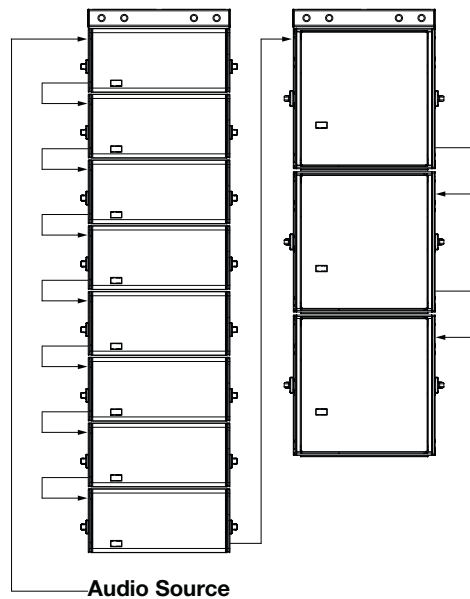

Figure 4: Flown Separate Arrays
- Flown separate arrays of LEOPARDs and 900-LFCs (Figure 4)